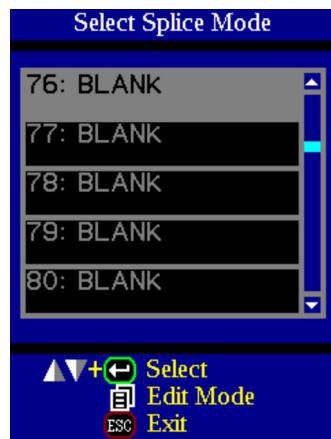

Figure 1 — Select a Blank Splice Mode
1. From the Ready screen, press the [MENU] button, press [SELECT] to enter the Select Splice Mode screen, and scroll to a blank splice mode (Figures 1 and 2) that will hold the splice recipe.